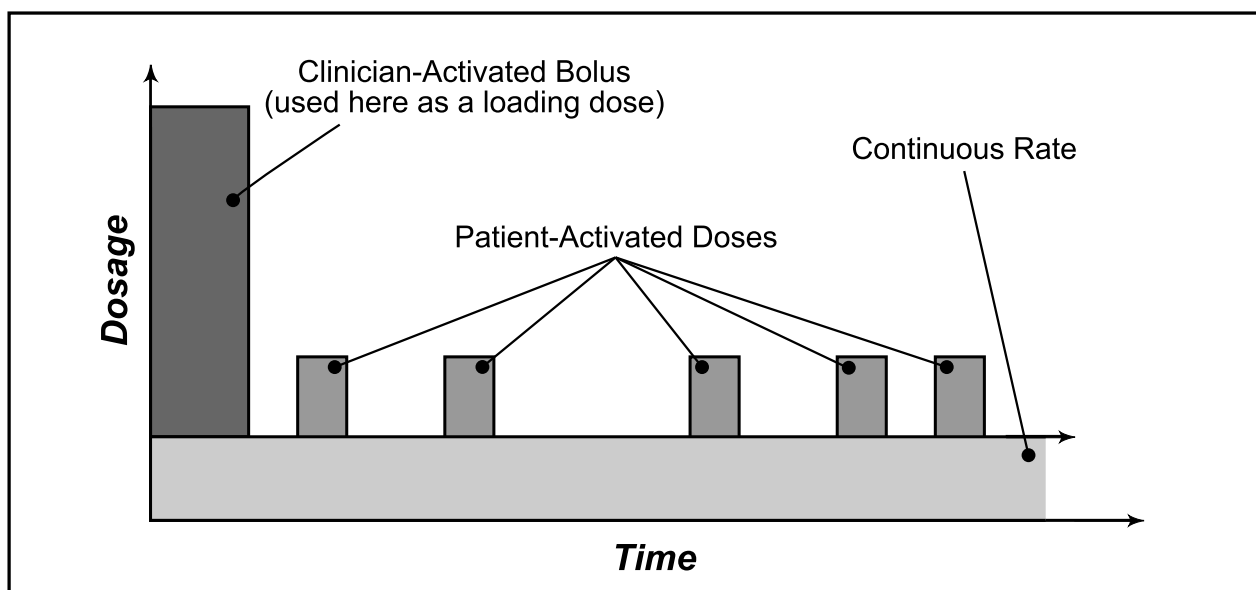

Figure 3. Combined delivery modes. You may program each mode individually or in combination with each other.
The CADD-PCA® pump has three methods, or modes, of delivery: (1) Continuous Rate mode (rate); (2) Patient-Activated Dose mode (dose); and (3) Clinician-Activated Bolus mode (bolus). You may program each of the modes individually or in combination with each other. The following graph, Figure 3, illustrates the combined delivery modes. Further details concerning these delivery modes are introduced in Section 3.3, “Programming the CADD-PCA® Pump,” and Section 3.9, “Using the Optional Clinician-Activated Bolus (MG or ML).”